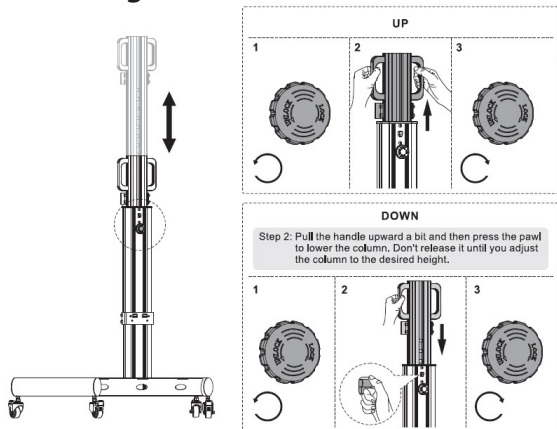

Figure 4
1. Loosen the **Locking Knob**, located on the back of the **Column (B)**, by twisting counterclockwise. (Figure 4)
2. Pull the **Column (B)** up to the desired height, using the attached **Handles**.
3. Tighten the **Locking Knob**, located on the back of the **Column (B)**, by twisting clockwise.